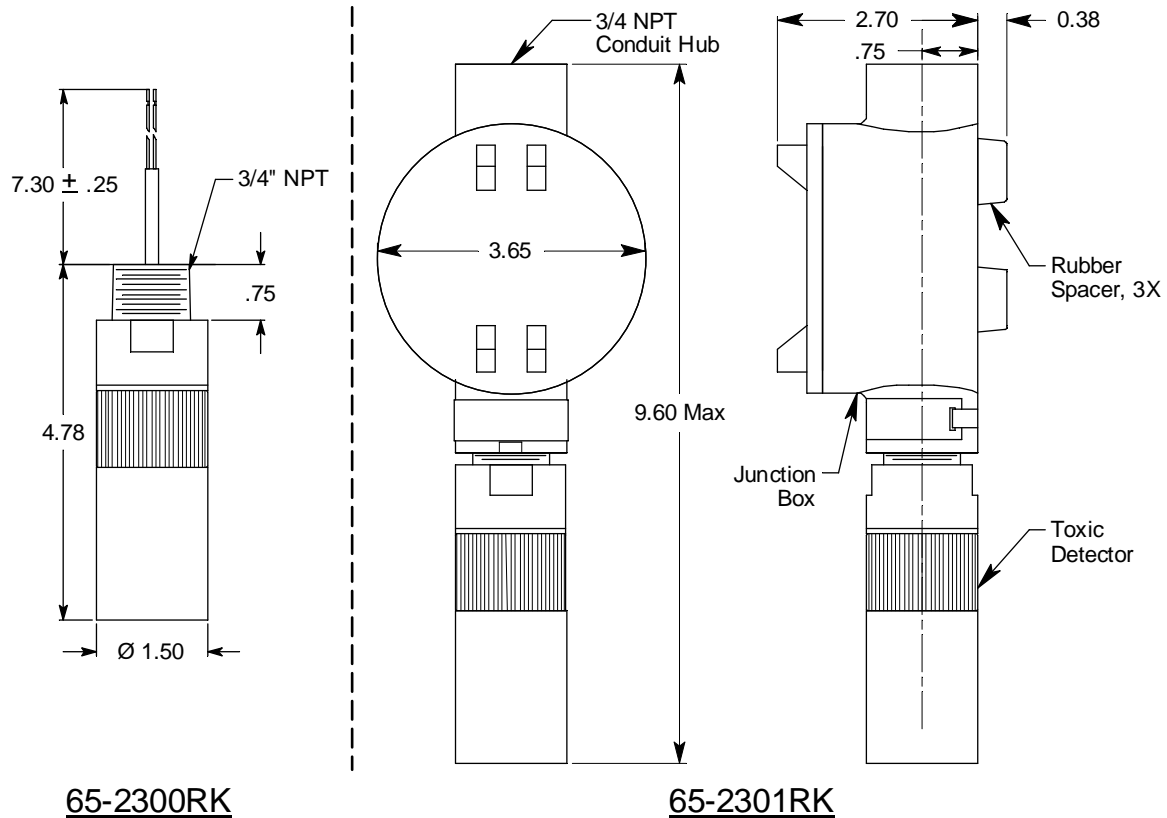

Figure 3: Outline & Mounting Dimensions, 65-2300RK & 65-2301RK
NOTE: If you are installing a 65-2300RK, it does not include a junction box and is usually factory installed in one of a controller's conduit hubs or may be field installed using the 3/4" NPT threads on the end with the wires. The 65-2301RK includes a junction box as shown in Figure 3 below.
2. At the mounting site you select, hang or mount the junction box with the detector facing down (see Figure 3).
CAUTION: *Mount the toxic detector with the detector facing down (see Figure 3.)*